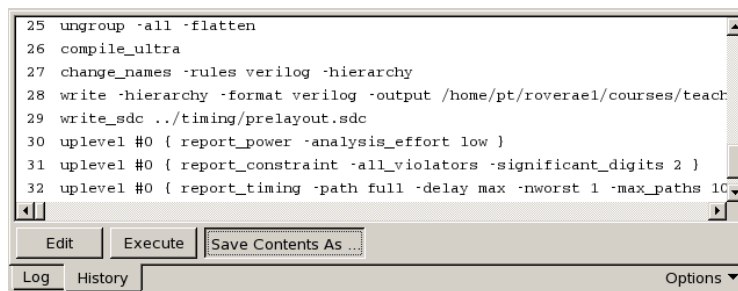

Figure 2.8: History tab.
1. Switch from **Log** tab to **History** tab in the lower part of the main window, as shown in Figure 2.8. You will see the complete list of commands that have been executed since the software was started.